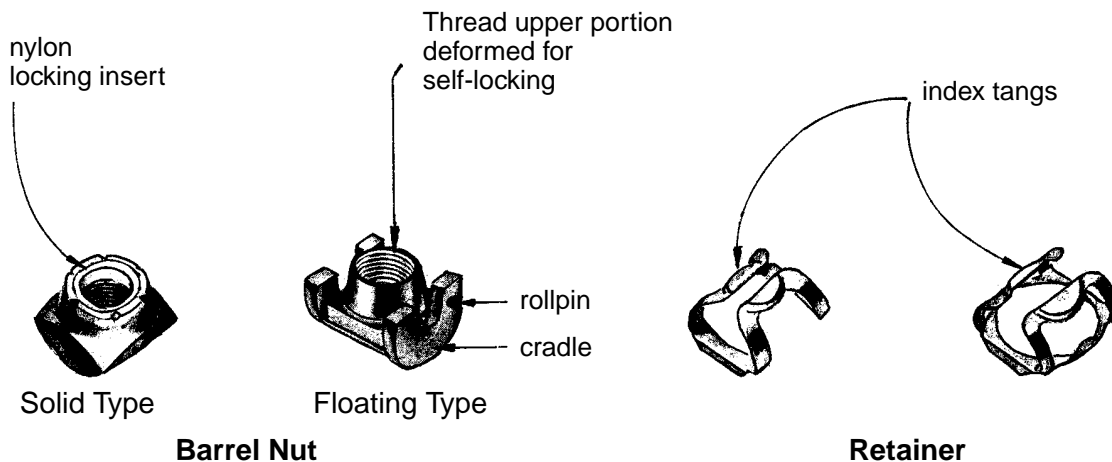

Figure 1 - General Description of Barrel Nut and Retainer
- 4.1 Barrel nuts and retainers as specified on the engineering drawing. Refer to Figure 1 for a general description of barrel nut and retainer.